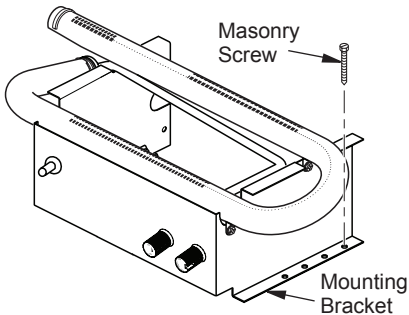

Figure 12 - Attaching Base to Fireplace Floor
7. Mark screw locations through one hole on each side of the mounting bracket (see *Figure 12, Page 13*). If installing in a brick-bottom fireplace, mark screw locations in mortar joint of bricks.